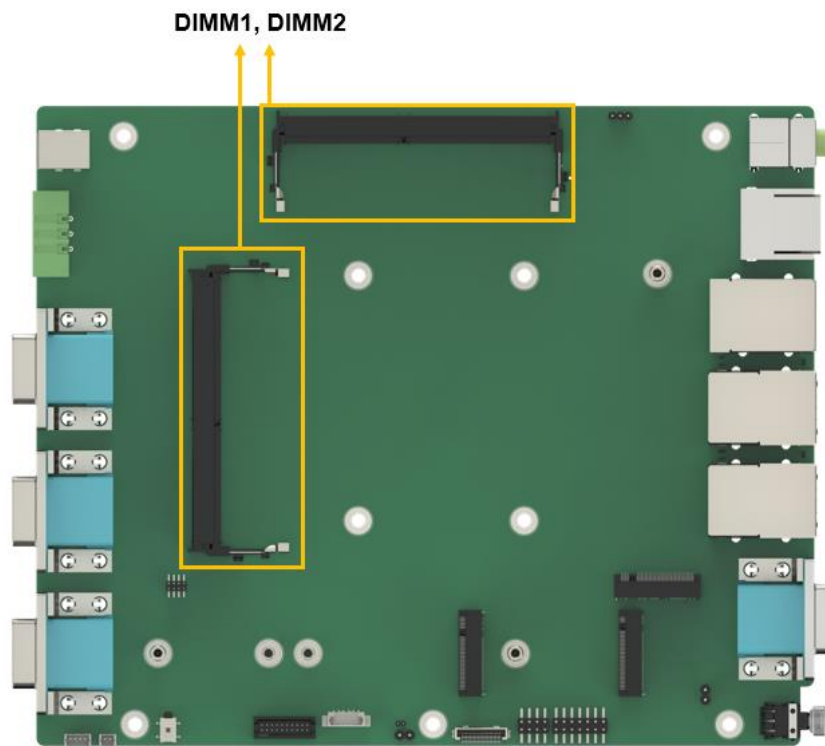

Figure 4-9: DDR4 SO-DIMM Connectors Location
- CN Location:** See **Figure 4-9**